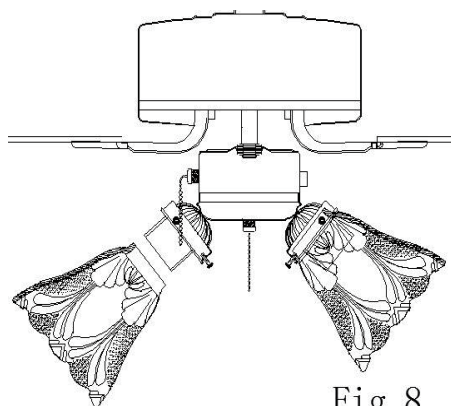

Fig 8
13.3. Carefully insert the glass into the protrusion on the end of the light, as shown in fig 8